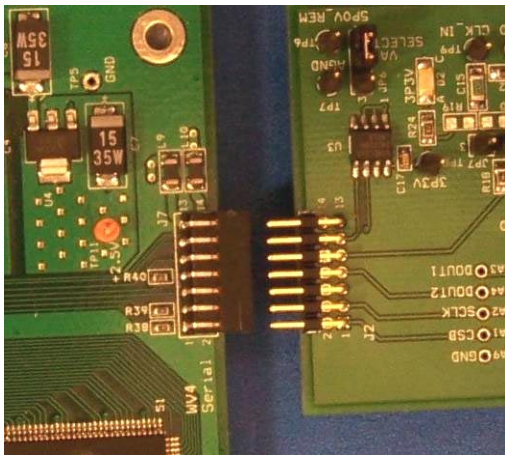
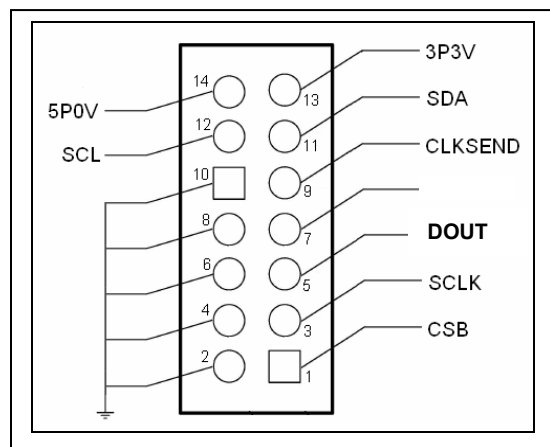
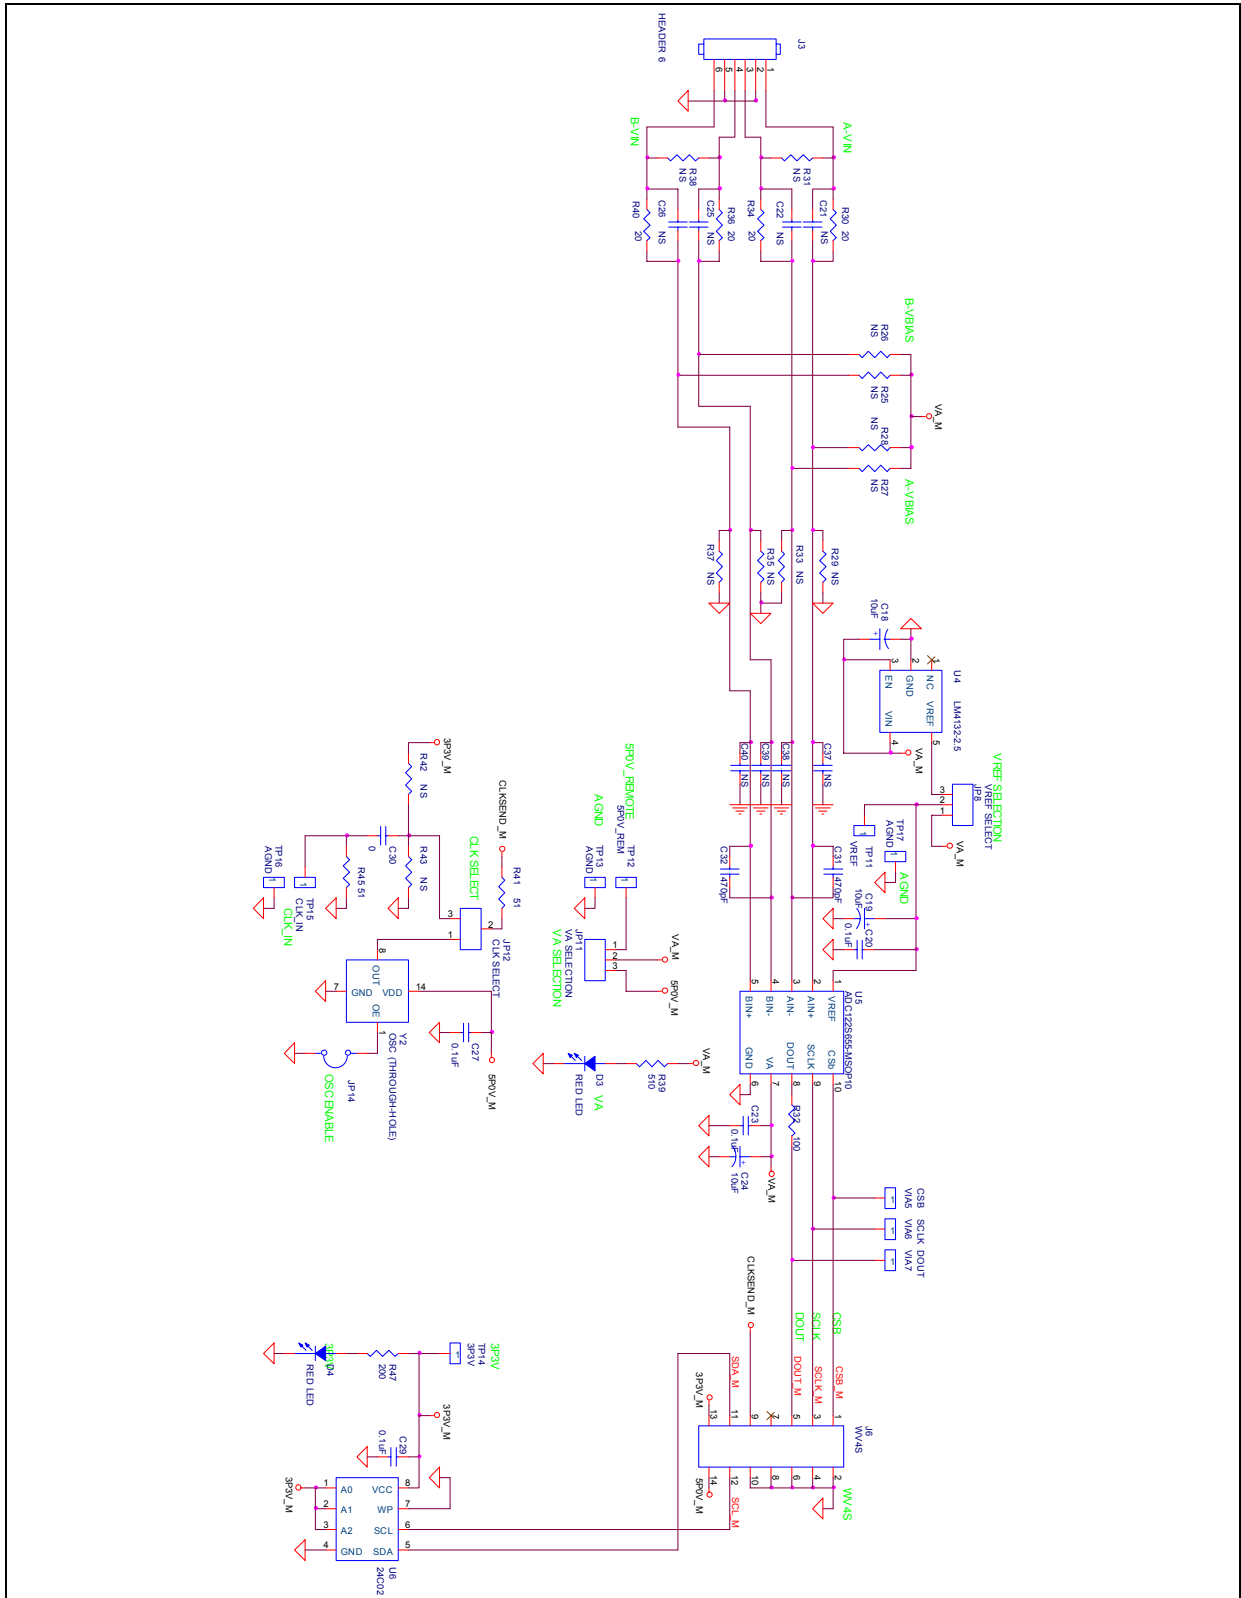

Figure 4: WV4 to ADC122S655 Connection
Figure 5: J6 (WV4S) Header Pin Out
Figure 10: ADC122S655 Evaluation Board Schematic
- Apply the signals to control the SPI interface at J6 or VIA5 to VIA7. See the evaluation board schematic (Figure 10) or the J6 header pin out (Figure 5) for more details.
- Connect the J6 header on the ADC122S655 evaluation board to the J7 WV4 serial connector on the WV4 board. Refer to Figure 4 for the serial connection and Figure 5 for the J6 header pin out.
Table 1 describes the function of the various jumpers on the ADC122S655 evaluation board. The evaluation board schematic is shown in Figure 10.
The ADC122S655 takes two input signals (channel A and channel B) and outputs to a single data output line (DOUT). The output format is 2's complement with channel A's conversion result followed by channel B's conversion result. The DOUT can be monitored at VIA7 or pin 5 of J6. In computer mode, the DOUT is by the use of the WV4 board and WaveVision 4 software. See the Evaluation Board schematic (Figure 10) and ADC122S655 datasheet for further details.